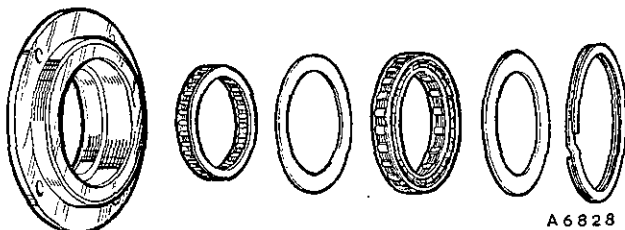

Fig. Fa.58
- (1) Carry out the operation given in Section Fa.3, items (1), (2b), and (12).
- (2) Remove the first gear free-wheel reaction member.
- (3) Knock back the locking plate tabs and remove the retaining bolts and the first gear free-wheel (one-way clutch) from the housing.
- (4) Remove the circlip.
- (5) Lift out the spring ring, first gear free-wheel, intermediate spring ring, and thrust bearing (see Fig. Fa.58).